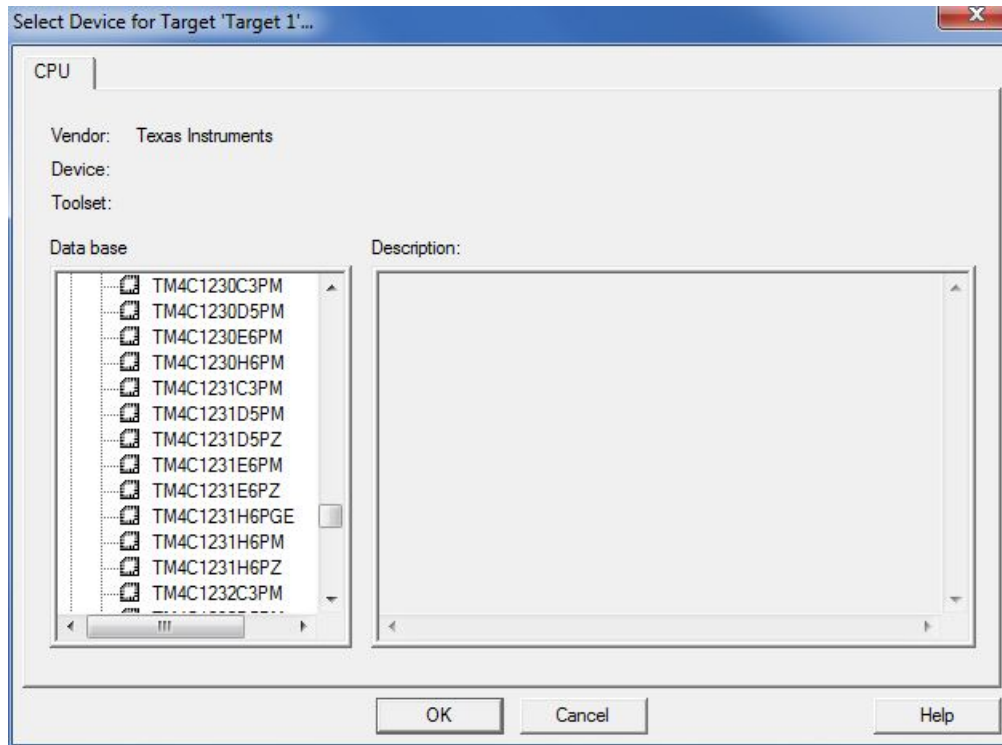

Figure 13.
- Once the project file (.uvproj) is saved, a dialog window appears asking you to select the device that you are using (see Figure 13). Select the appropriate device under the Texas Instruments list.